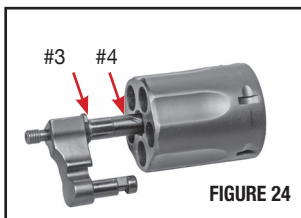

FIGURE 24
- Pull the yoke forward out of the cylinder and apply a drop of firearm lubricant to the points called out by arrows #3 and #4 (FIGURE 24).